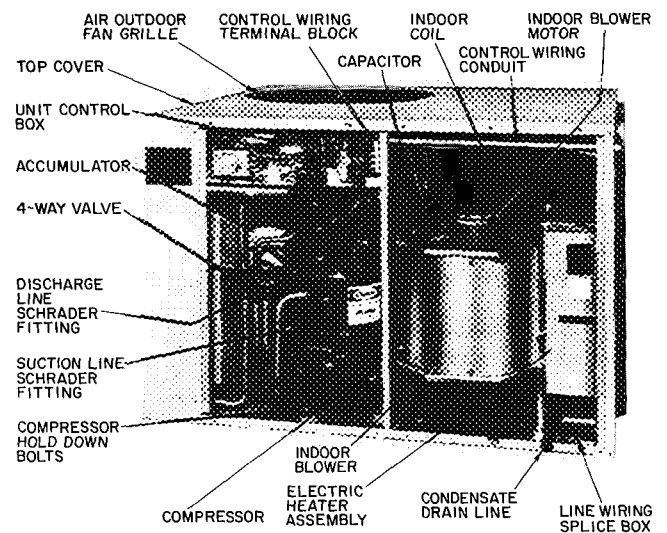

Fig. 10 - Component Location
Refrigerant Charging - Unit refrigerant system is factory charged. When recharging is necessary, weigh in total charge indicated in Table 4. (Charge must be weighed in during heating season.) Remove any refrigerant remaining in system before recharging. If system has lost complete charge, evacuate system to 500 microns (29.7 in. vacuum) before recharging. Service port connections are provided on unit suction and discharge lines for evacuation and charging. (See Fig. 10 for service port location.) Dial-a-charge charging cylinder is an accurate device used to recharge systems by weight. These cylinders are available at refrigeration supply firms.
2. Measure suction pressure by attaching a gage to unit suction service port. (See Fig. 10 for correct service port location.)
See Table 5 for compressor information and Fig. 10 for component location. Follow safety codes, and wear safety glasses and work gloves. Have quenching cloth available (step 8).